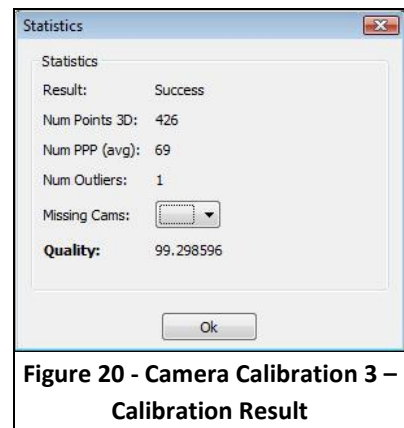

Figure 20 - Camera Calibration 3 – Calibration Result
5. Figure 20 - Camera Calibration 3 – Calibration Result will appear where you can review your results.